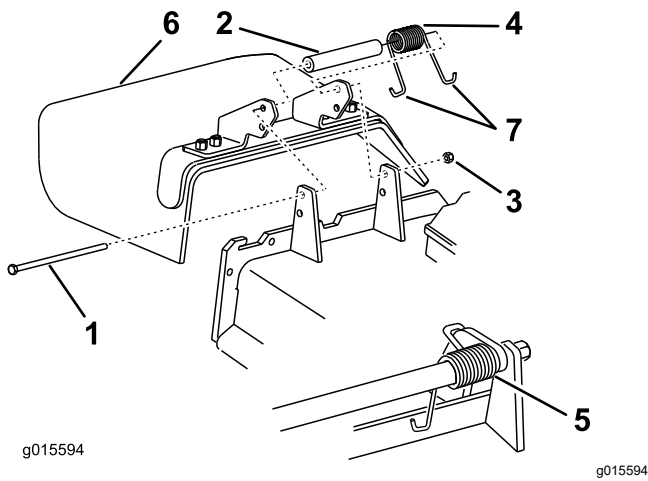

Figure 26
10. Install the discharge deflector using the parts shown in Figure 26.